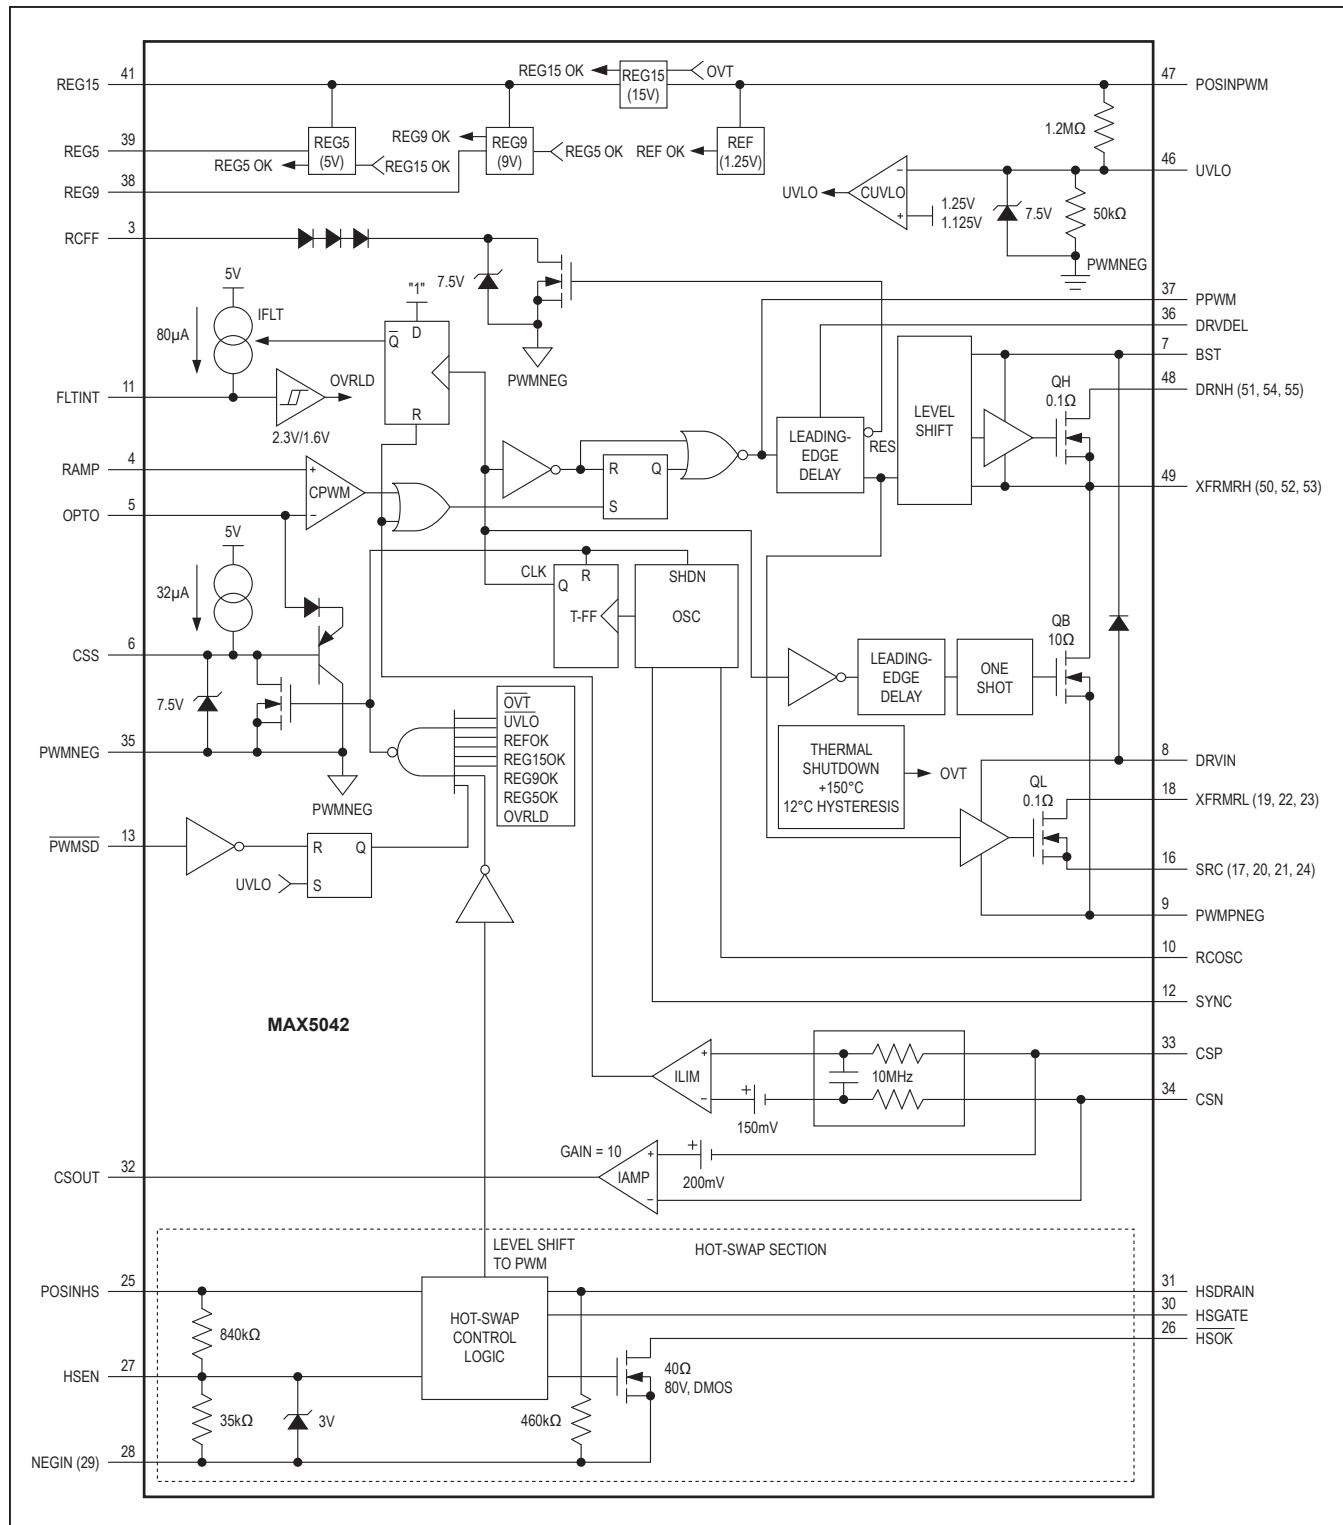

Figure 3. Block Diagram of the MAX5042 Power IC
Figures 3 and 4 show the block diagrams of the MAX5042 and MAX5043, respectively. The power-OK signals from the hot-swap section, regulators, thermal shutdown, and UVLO combine to generate the internal shutdown signal SHDN. When asserted, SHDN disables the comparators and oscillator. Deasserting SHDN releases the comparators and oscillator. The falling edge of SHDN is delayed allowing the internal signals to settle before the PWM pulses appear. During the time between the falling edge of SHDN and its delayed signal, the 10Ω internal MOSFET (QB) from XFRMRH to PWMPNEG turns on, charging the BST capacitor. After startup, this MOSFET also turns on for approximately 300ns at each half period to help charge the BST capacitor.
The ILIM comparator provides cycle-by-cycle current limiting with a typical threshold of 156mV. The fault integration circuit works by forcing an 80 μA current out of FLTINT for one clock cycle every time the current-limit comparator (Figures 3 and 4, ILIM) trips. Use the following formula to calculate the approximate capacitance (C_{FLTINT}) needed for the desired shutdown time.